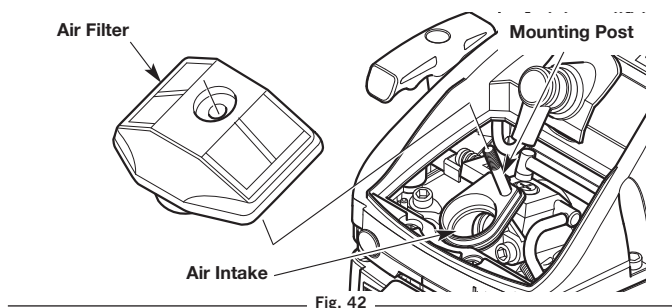

Fig. 42
3. Remove the air filter (Fig. 42).
- Reinstall the air filter onto the mounting post (Fig. 42). Make sure the opening in the air filter sits securely in the air intake (Fig. 42).